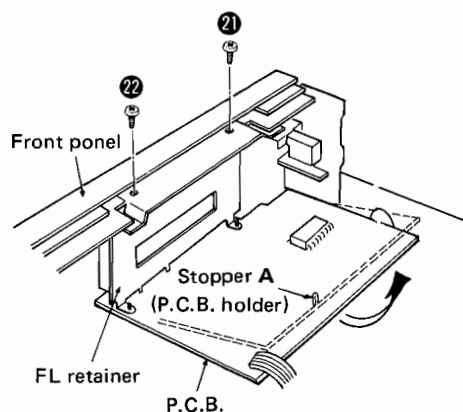

Fig. 7
2. Remove screws ⑫ and ⑭ as in **Fig. 7**.
4. Remove P.C.B. together with FL from the chassis in the direction of the arrow in **Fig. 7**.